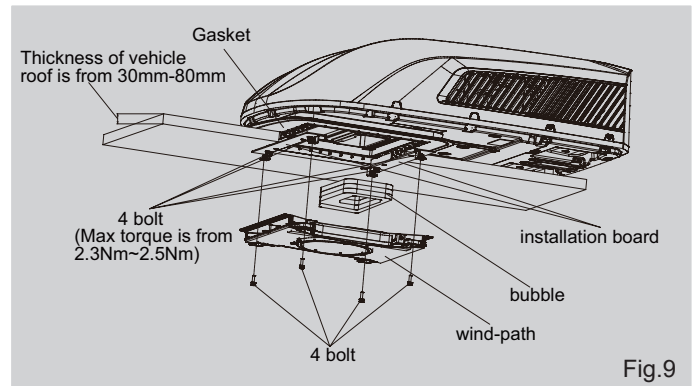

Fig.9
3. Then carry the outdoor unit to the vehicle's top and align with the openings on the vehicle's top. Use 2 sets of mounting plate assembly and 4 screw bolts to mount the outdoor unit (See Fig. 9).
After connecting the outdoor unit with indoor unit, check whether the foam assembly has come loose (See Fig. 9).